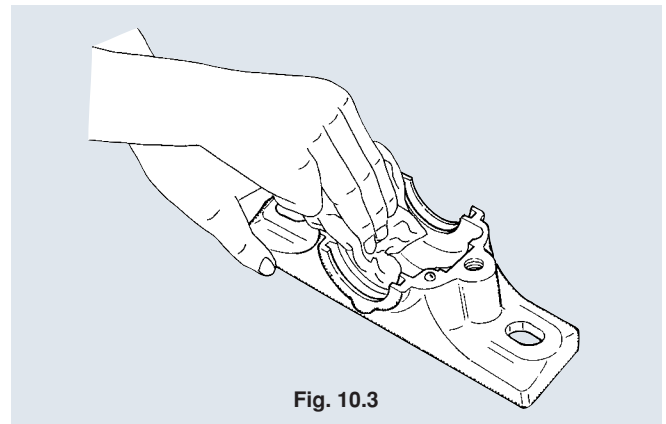

Fig. 10.3
- (3) Remove dent marks (even though very small) from the mating faces with an oil stone or fine emery paper. Check that the contact face to the seal has specified surface roughness (0.8Ra). Wipe dust away from the shaft with clean factory cloth.
- (4) Remove possible dust and metal chips from the inside of plummer block. (Fig. 10.3)